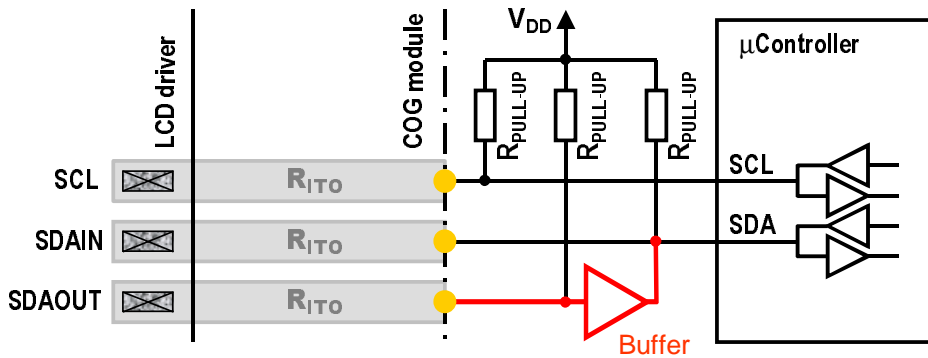

Fig.6 Connecting to a microcontroller via an open-drain buffer.
2) The I²C protocol is fully implemented in the system but the value of pull-up resistor that is required to satisfy the *maximum logic low level* requirement V_{IL(max)} specification is too high to satisfy simultaneously the *maximum rise time* requirement, t_R. In this case the full SDA signal may be reconstituted using an external open-drain buffer as shown in Fig.6. The buffer isolates SDAOUT pin from the capacitance of the I²C-bus and makes the rise time requirement easier to meet.